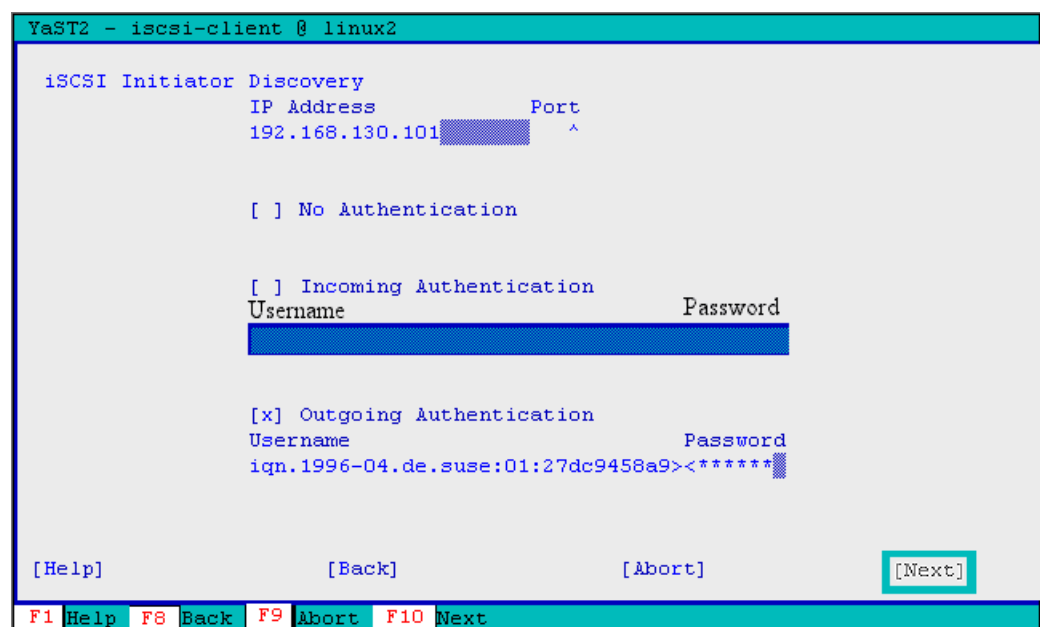

Figure 20-19 IP address of the Storage iSCSI host port and authentication
6. Type the IP address of one of the Storage iSCSI host port as shown in Figure 20-19. The TCP listening port by default is 3260. In our case we had configured previously a target authentication in the IBM Storage Manager. The Username is always the same as the initiator name (in this case iqn.1996-04.de.suse:01:27dc9458a936) and the password is the same as we provided in the IBM Storage Manager as shown in Figure 20-20 on page 605. For more information refer to Chapter 13, “Administration - iSCSI” on page 309.